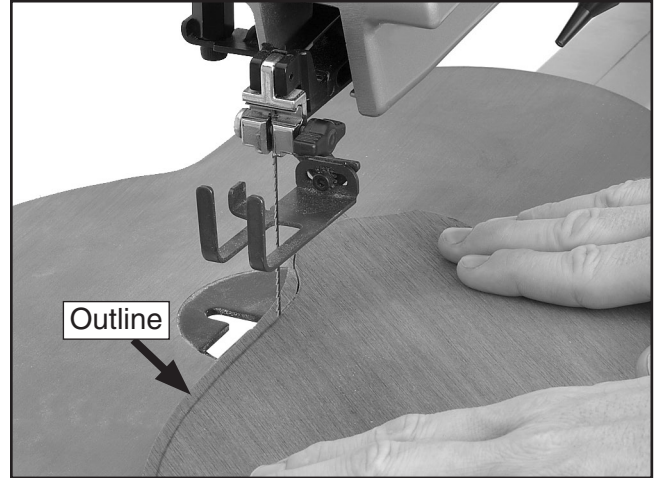

Figure 8. Cutting backboard to rim outline.
4. Use a bandsaw or jig saw to cut the edge of the backboard close to the rim outline as shown in **Figure 8**.